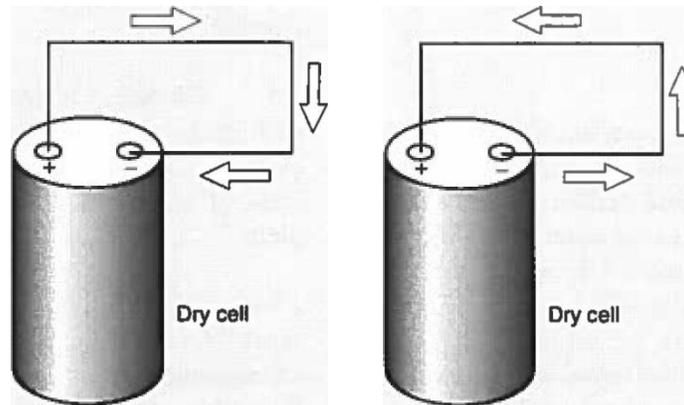

Figure 1.9: Two Directions of Electric Current
- 1-52 The so-called "positive current" is from positive to negative. The "electron flow" is from negative to positive. In these training manuals, we will always use the word "current" to mean *electron flow*—from negative to positive. Figure 1.9 shows the difference between positive current and electron flow.